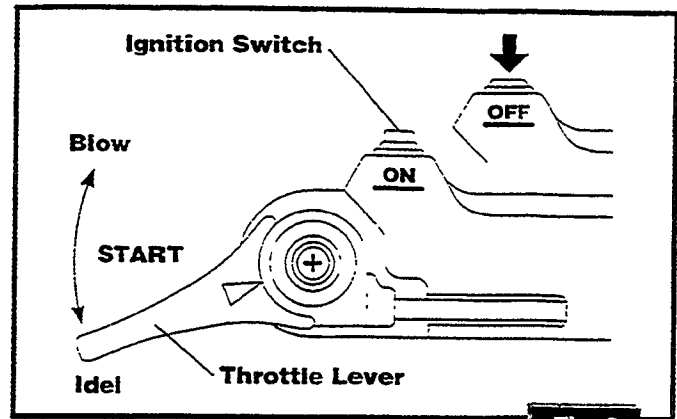

Fig. 3
1. Set ignition switch to the "on" position. (Fig. 3)
3. Open the throttle lever halfway. (Fig. 3)
2. Set ignition switch to the "Off" position. (fig. 3)